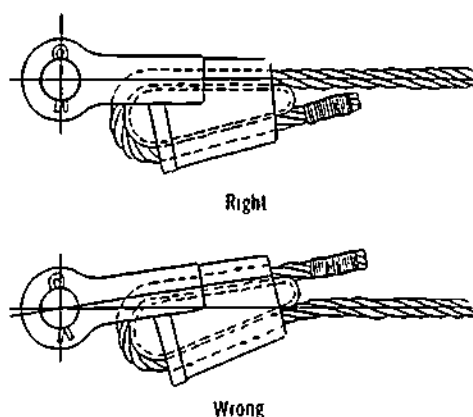

Figure 7-88. Applying a Wedge Socket
**Application of Wedge Socket** The wedge socket must be applied so that the line of stress follows the live portion of the rope (Figure 7-88).